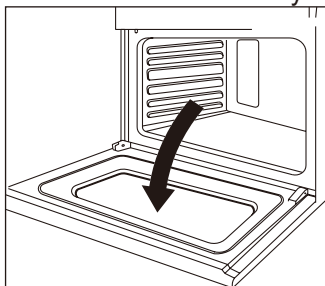

Fig.16
- Open the door completely (Fig.16).